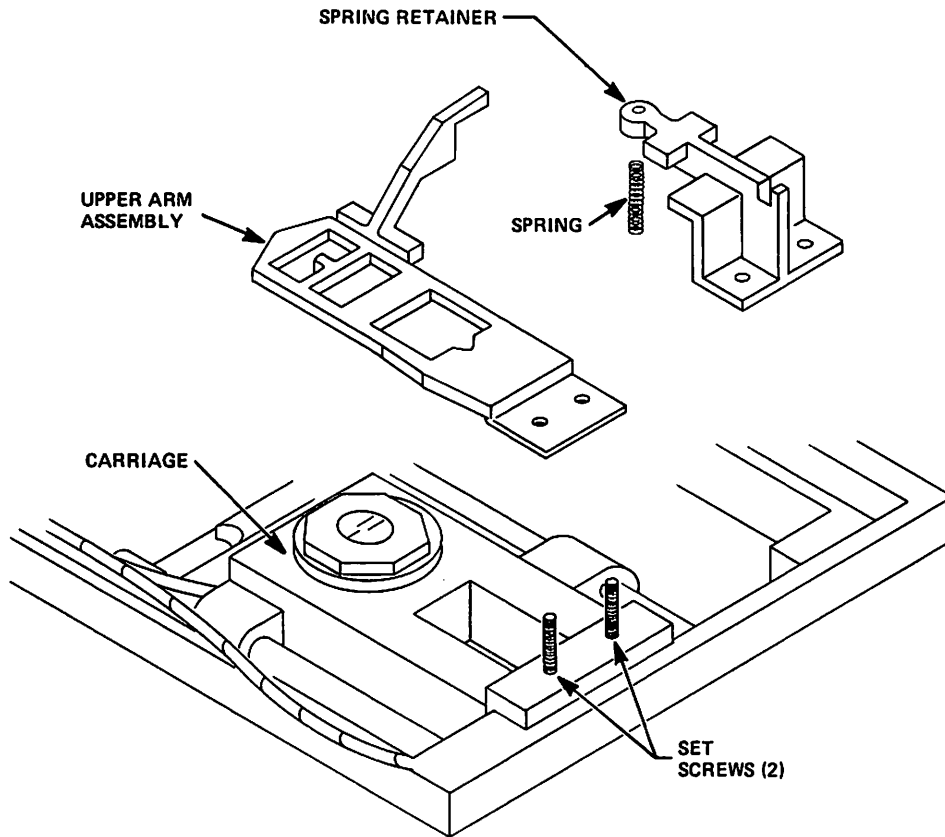

Figure 5-27
5.13.4 Carefully lift off the spring retainer and spring (see Figure 5-27).
5.13.7 Carefully replace the spring and spring retainer (see Figure 5-27).
5.13.10 Tighten the two (2) set screws (see Figure 5-27).